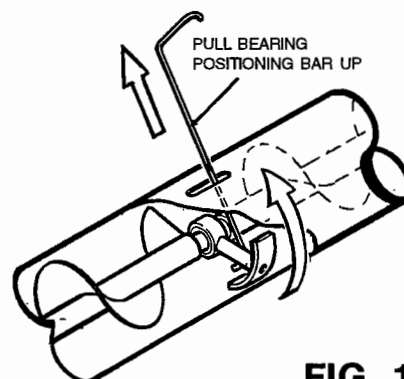

FIG. 17
- B. Remove the positioning bar and insert the single bent end into slot. Hook the bearing hanger stem and, by pulling upward, rotate it completely upright. See Fig. 17.